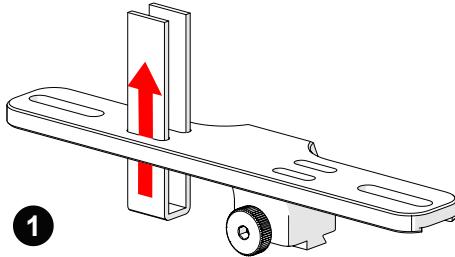

Fig. 87 - Insert velcro straps
1. Slide the velcro strap through the bracket's holes (Fig. 87).